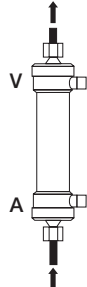

Fig. 2
- 4) Rinse the blood side of the dialyzer and the blood line with more than 500 mL of physiological saline at about 100 mL/min. (Fig. 2)